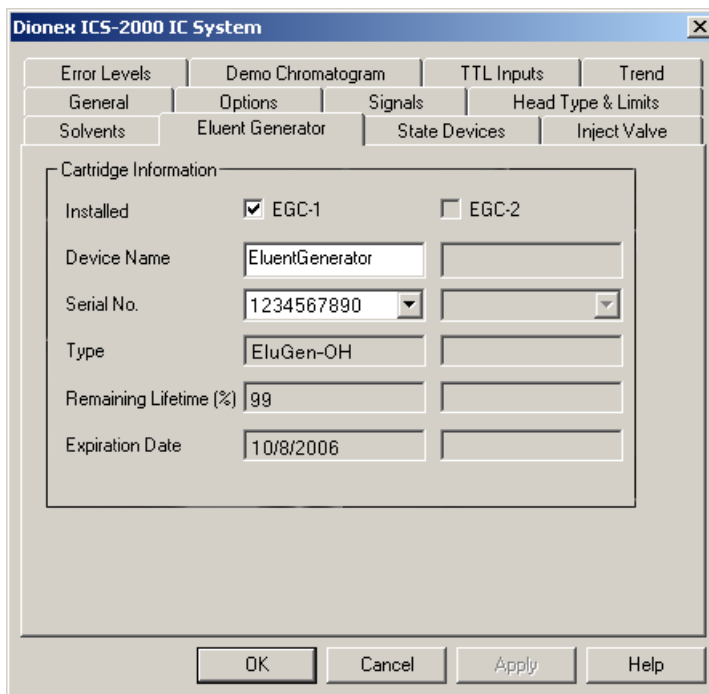

Figure 5-40. Eluent Generator Configuration Properties Example
3. Click the **Eluent Generator** tab (see Figure 5-40).